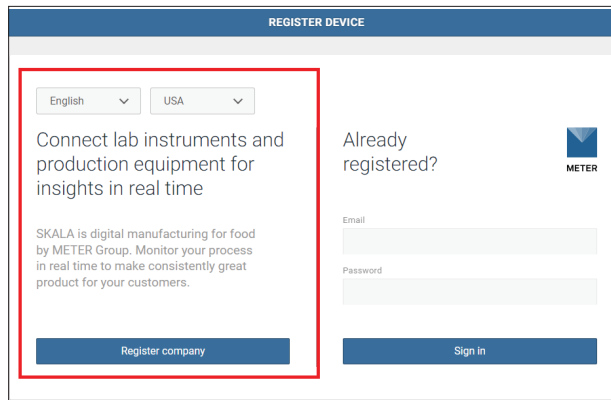

Figure 7 Register device window
The Register device screen (Figure 7) will show up in the following situations.
2. Open the SKALA Mobile app on the iPad to get to the Register device dialog window (Figure 7).
4. Select the **Register company** button on the left (Figure 7).